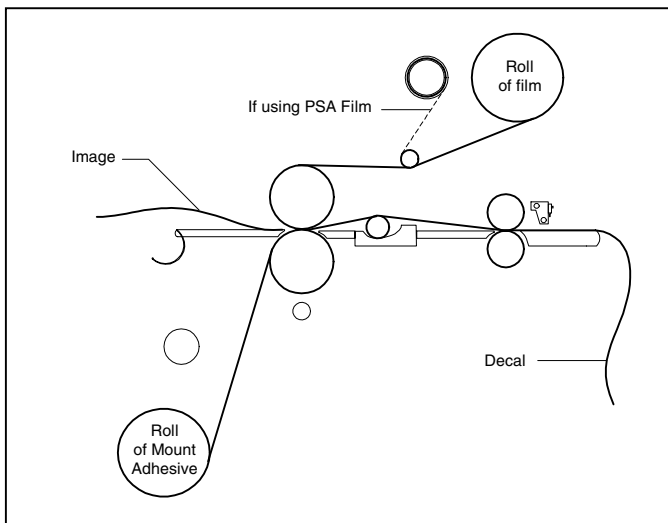

Fig. 39
#### TIPS FOR CREATING A DECAL (Figure 39)
1. Load the laminator as illustrated in Figure 39.